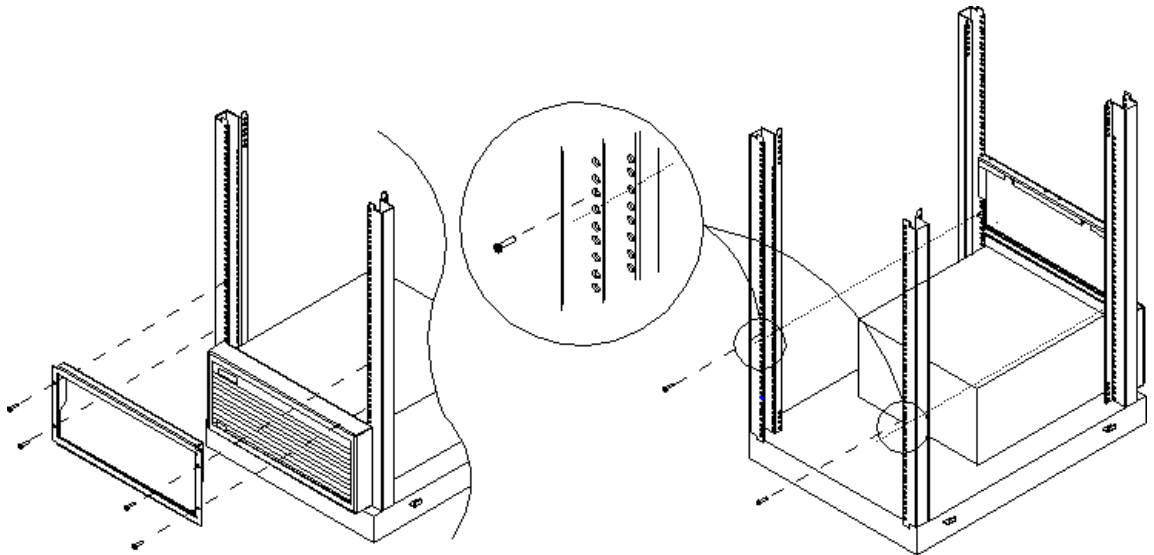

FIGURE 1-2 Screw Installation
1. Facing the front of the rack and using the *Rackmount Placement Matrix* (part number: 805-6945-xx), hold the bezel in the specified position and install and tighten four 10-32 screws (FIGURE 1-2).
Note – Load from bottom to top and load lighter products over heavier ones, as demonstrated in FIGURE 1-2.
2. Loosely thread two 10-32 screws into the back rail of the rack. These back bottom screws should be one above the front bottom screws (FIGURE 1-2).